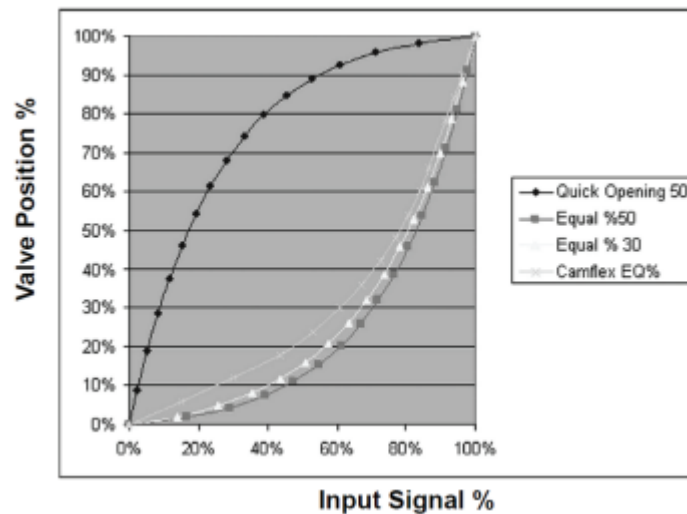

Figure 62 Characterization Curves
- Equal % (50) and Equal % (30) & Camflex: Three characterizations are available, first with R=50, second with R=30 & third with Linear and R=50. For instance, the positioner will adjust output to force less of an opening of the valve in the region when moving off the seat, and more of an opening of the valve in the region when moving towards full open.
- Custom: Selecting this option displays a Custom Data field showing the default custom data points and an Edit button to access an additional dialog where you can enter or draw a custom characterization curve. The curve can have up to nine points and points in between are linearly interpolated. Figure 62 shows the characterization curves in a graphical format.